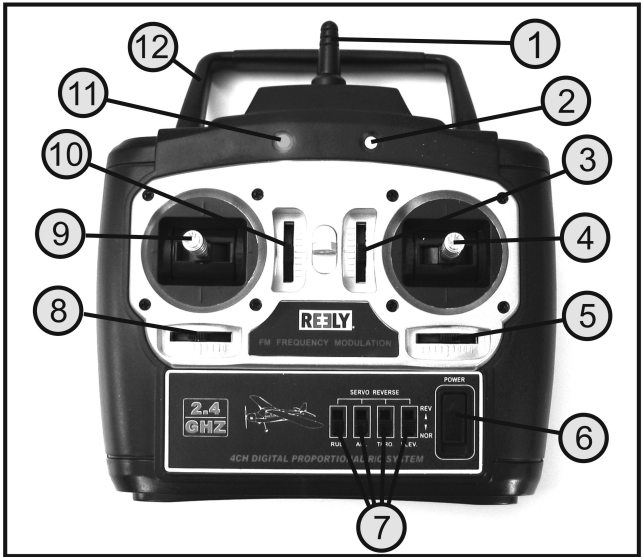

Figure 2
Nevertheless, before using the transmitter, always make sure that the motor function control stick (see figure 2, pos. 9) is in the "motor off" position. For this, the control lever must be pushed all the way to the bottom-most position.
When new batteries or freshly charged rechargeable batteries have been inserted, switch on the transmitter with the function switch (see figure 2, pos. 6) for test purposes. The red and green light diode (see figure 2, pos. 2 and 11) light up and signal that way that the transmitter is sufficiently supplied with power.
If the power supply is no longer sufficient for proper operation of the transmitter (below 8.3 V), the red light diode (see figure 2, pos. 11) starts to flash. In this case, stop operation of your model as quickly as possible.
Slide the trim slider for the elevator and fin unit (see figure 2, pos. 3 and 5) into central position and check the correct position of the servo levers.